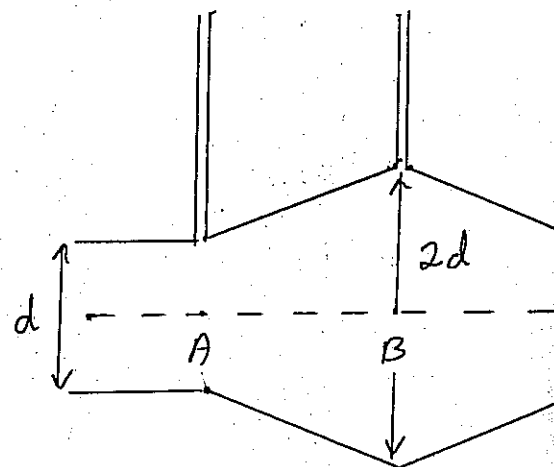

Figure 8
8) A student plans to measure the discharge in a pipeline by using the instrument shown in Figure 8. The instrument consists of an expanding pipe section AB – where the diameter increases from the pipe diameter d to a value of $2d$. The expanding section is followed by a contracting pipe section BC – where the diameter reduces back to the pipe diameter d , shown in the figure. Simple water manometers are connected at A and B as shown. The student plans to measure the difference in the water levels in the manometers when water is flowing through the instrument.